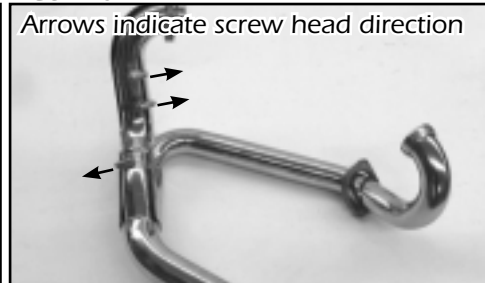

FIGURE 7
5. Install exhaust port flanges and circlips (from stock system) onto head pipes (Figure 7).